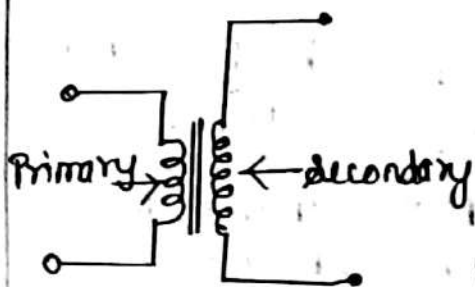

Fig 1.2 Step up Transformer
- * When the number of turns in the secondary winding is higher than the primary winding, it is called a step-up transformer. Fig 1.2